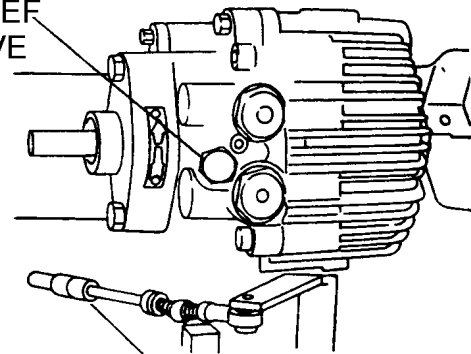

Figure 37. Loosening Charge Relief Valve
2. Loosen the charge relief valve located on the front side of the hydraulic transmission (Figure 37).